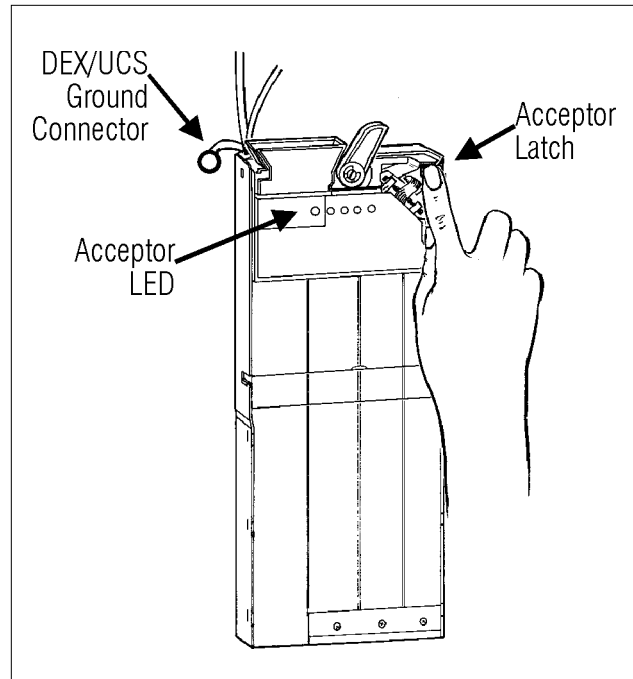

Figure 1
2. Remove the acceptor from the changer by pressing down and releasing the acceptor latch, releasing the acceptor. Rotate the top of the acceptor forward, away from the changer (see figures 1 and 2). Unplug the ribbon cable from changer. Free the lower acceptor studs from changer housing. Place the acceptor in a clean area.
5. On Single-Price units using the DEX/UCS Hand-Held Computer, attach the DEX plug ground connector to the vending machine frame (see Figure 1).